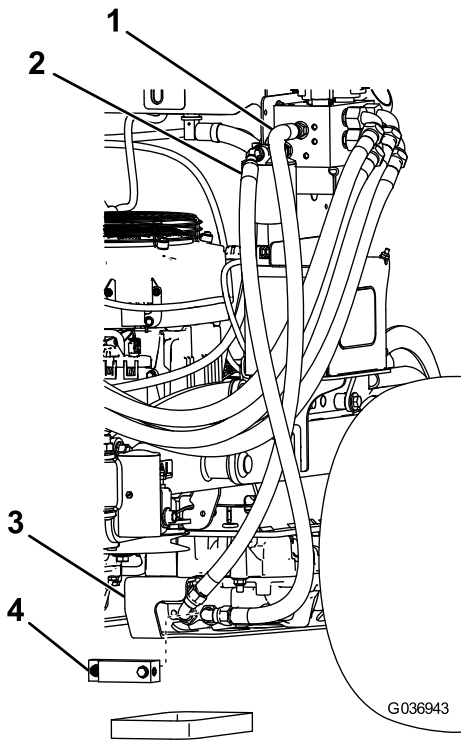

Figure 12
4. Place a drain pan under the manifold block of the left hydrostatic drive (Figure 12).
5. Remove the manifold block (Figure 12).
6. Connect the filter hose to the outer port on the hydrostatic drive (Figure 12).
7. Connect the loose end of the hose in the P port of the manifold to the inner port on the hydrostatic drive (Figure 12).